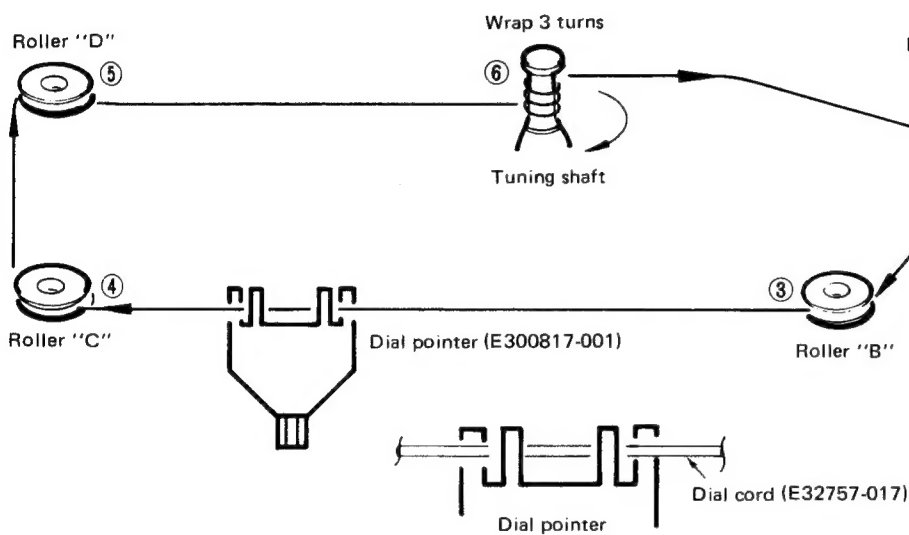

Fig. 10
- (1) Remove dial pointer and old cord.
- (2) Tie end of new dial cord to one end of dial spring, connect other end of dial spring of bottom right eye inside dial drum.
- (3) Rotate the tuning capacitor dial drum to its maximum counterclockwise.
- (4) Run the dial cord through the slot in the rim of the dial drum. See step ①.
- (5) Guide the dial cord around, over and under rollers "A", "B", "C" and "D". Keep the dial cord taut during this procedure. See step ② to ⑤.
- (6) Pull the dial cord taut and wrap 3 turns counterclockwise around tuning shaft. See step ⑥.
- (7) Guide the dial cord over the dial drum and wind 2 turns clockwise. See step ⑦.
- (8) Pull the dial cord taut and set it around roller "E". See step ⑧.
- (9) Turn the tuning shaft to rotate the dial drum fully counterclockwise and fully clockwise to distribute the tensioning along the dial cord.
- (10) Place the dial cord over and under the tabs on the rear of the dial pointer and place the dial pointer on the top of the dial rail. See Fig. 10.
- (11) Turn the tuning shaft clockwise. Slide the dial pointer to zero(0) calibration marker on the logging scale while holding tuning shaft fully clockwise. Cement the dial pointer to the dial cord to prevent slippage. Allow cement to dry thoroughly.